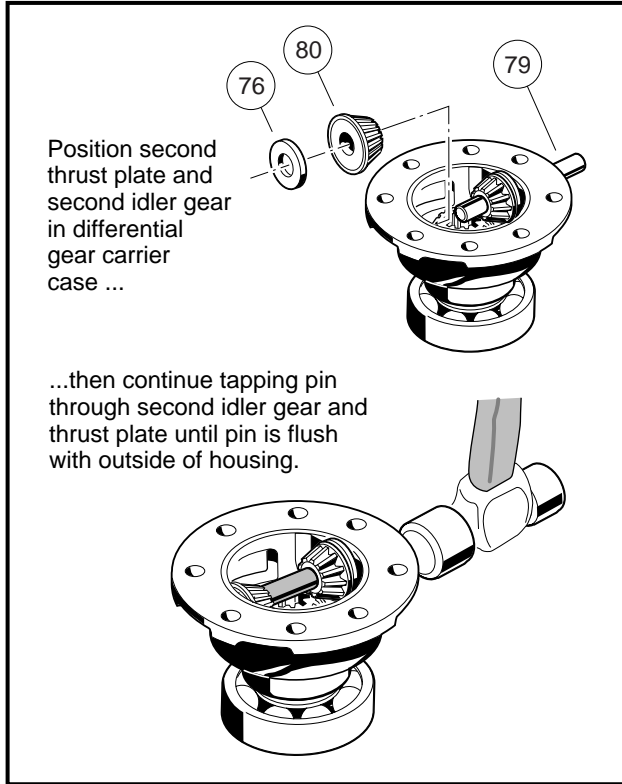

Figure 16-62 Second Idler Gear
4. Position the other thrust plate (76) and idler gear (80) in the carrier case. Continue to drive the pin through them and the wall of the carrier case until the ends of the pin are flush with the sides of the carrier case (**Figure 16-62, Page 16-28**).